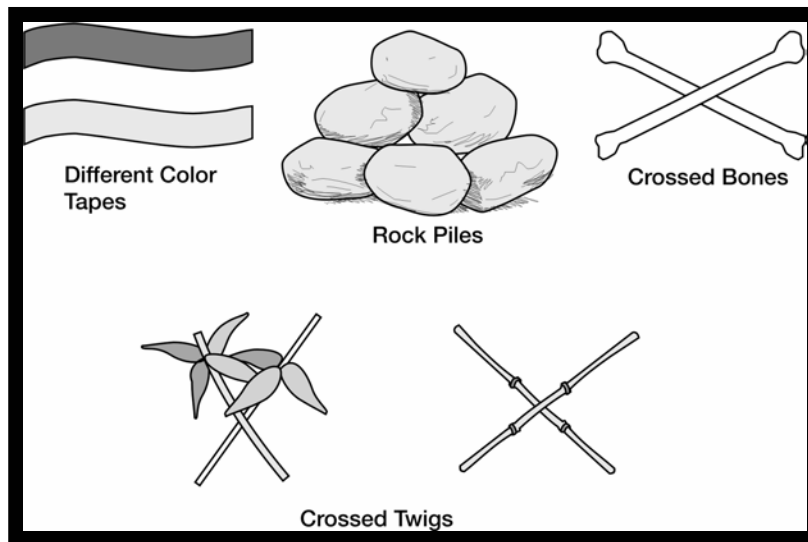

Figure 052-192-1242-1. Samples of Mine Markings
(21) Trip wires, strings, or cables.
(22) Evidence of electrical wires, batteries, mouse traps, clothes pins, steel tubes, or springs.
(23) Small shiny metal plates, split lightweight bomb casings, empty cluster bomb canisters, and small parachutes or drogues (funnel shaped drag chute) from submunitions (all indicators of cluster bomb strikes or scatterable-mine attacks).
b. Improvised markings of mines, booby traps, and UXOs (Figure 052-192-1242-1).